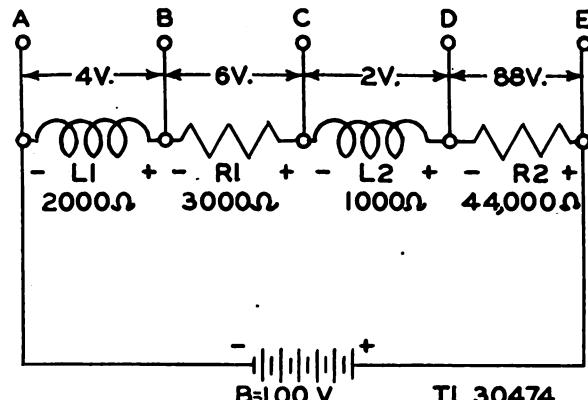

Figure 41. Voltage measurements functional schematic.
(3) Figure 41 shows another example of voltage drops in a series circuit. The total resistance in this circuit is:
Figure 41 shows the battery labeled plus (+) and minus (-), or positive (+) and negative (-).